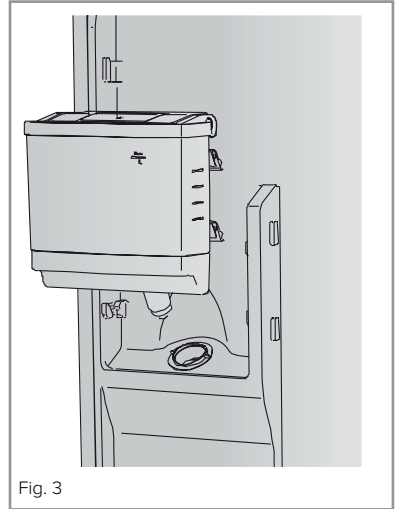

Fig. 3
- Line it up with its locating lugs, ensuring that the exit spout at the bottom enters the chute in the door (Fig. 3).